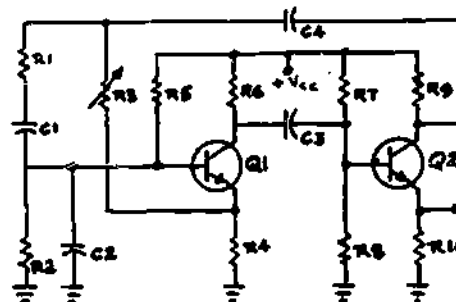

Figure 4
For questions 1 through 8, refer to the Figure 4 schematic diagram.
1. The Figure 4 circuit is correctly identified as a:
5. The oscillator shown in Figure 4 must operate class _____ in order to produce a sine wave output.